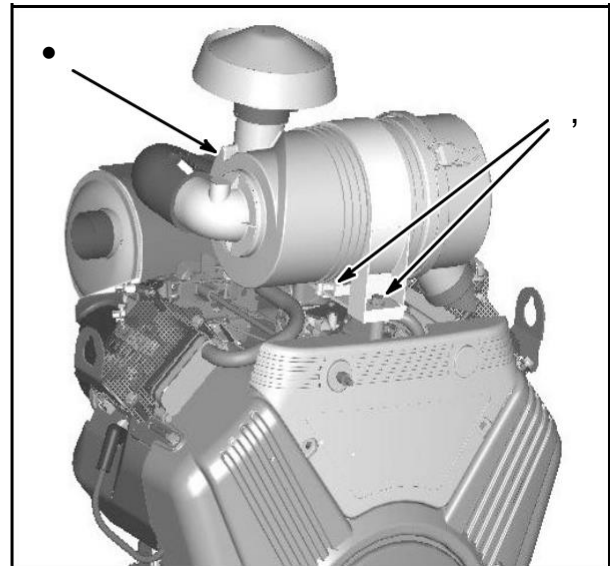

Fig. 6
Loosen the clamp (1) for the air inlet hose, Fig. 6.